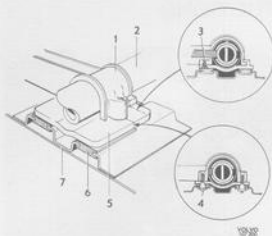

Fig. 6-52. Upper attachment
3. Drill off the collars on the shear bolts (4, Fig. 6-52). Start with a small drill and finish with, for example, a 13 mm ($1/2$ ") one. The bolt guide has a diameter of 12 mm ($15/32$ ").
4. Remove the attaching bolts and take off the left impact guard and side member (7) with slide piece (6).
5. Screw out the bolt (3) and unhook the attaching plate (5).
1. Fit the new steering wheel lock and the electrical part in position. Hook on the attaching plate (5, Fig. 6-52) and screw in the bolt (3). Check the locking function.
2. Fit the side member (7) with the slide piece (6) which must be in good condition. Fit the impact guard.
3. Fit the shear bolts (4) but do not shear off the heads.